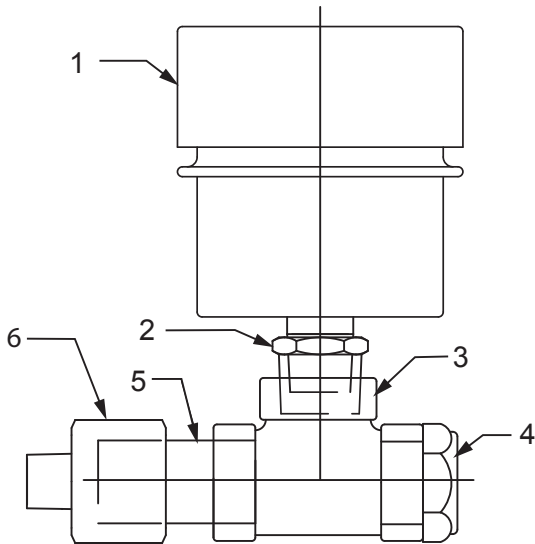
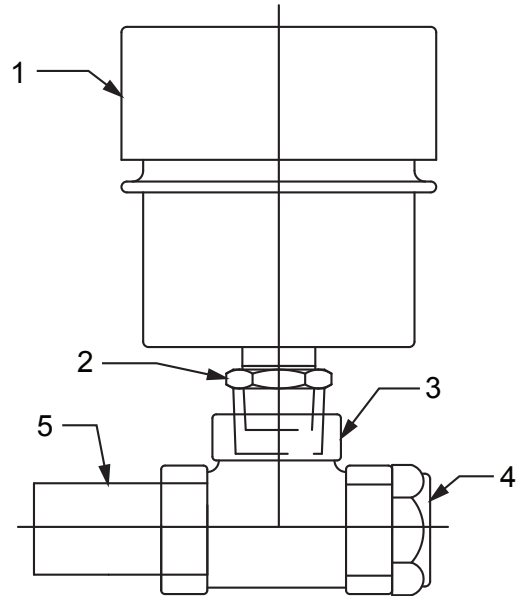

Figure 1-Vertical Breather Kit (MTA2 – MTA3)
Figure 2-Vertical Breather Kit (MTA4 – MTA8)
1. Assemble vertical breather kit as shown in Figure 1 (MTA2 – MTA3) or Figure 2 (MTA4 – MTA8).
② 1	Expansion Chamber	240053	1	1
② 2	3/4 x 1/2 Hex Bushing	430079	1	1
② 3	3/4 Pipe Tee	03472005AA	1	1
② 4	Oil Sight Gauge	430159	1	1
② 5	3/4 x 2-1/4 Pipe Nipple	034530018EA	1	1
② 6 ③	3/4 M x 3/8 F Adapter	965206	1	–
- ① Refer to Figure 1 or Figure 2
- ② Makes up assembly under which it is listed
- ③ This part is used only on MTA 2 – MTA 3
P.O. Box 2400, Fort Smith, AR 72902-2400 U.S.A., Ph: (1) 479.646.4711, Fax (1) 479.648.5792, International Fax (1) 479.648.5895